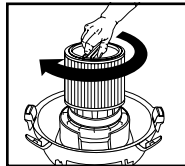

FIGURE 16
22. Hold the tank cover with one hand, turn the handle on the filter retainer clockwise to tighten, locking the filter into place. **FIGURE 16.**